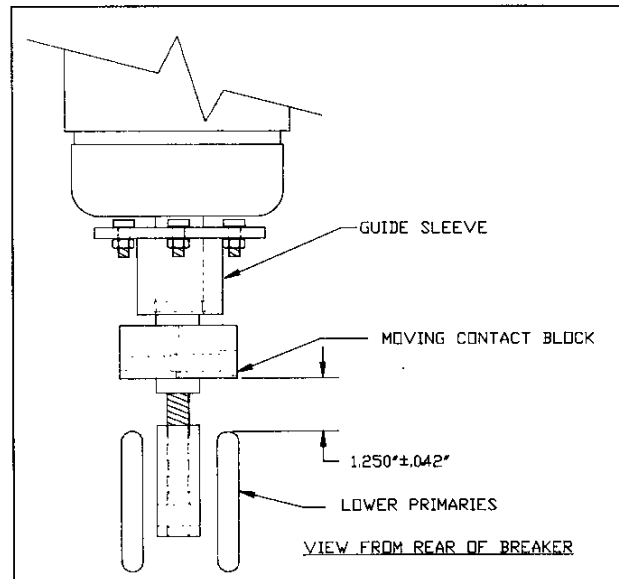

Figure 1. Moving Contact Block Measurements
At each inspection, the vacuum interrupters should be checked for contact erosion. The breaker must be closed for this check. Each new vacuum interrupter is set with a gap of about 0.500 inch between the contact loading spring yoke and the nut on the pushrod. Because the factory setting of the overtravel gap varies slightly for each interrupter, a label is provided on the lower part of each interrupter. The original factory setting of the overtravel gap and the end-of-life measurement of this gap are recorded on the label. When the overtravel gap measurement reaches the end-of-life value given on this label the interrupter should be replaced. See Figure 1.
- With closed contacts on a new vacuum interrupter, the bottom of the moving contact block should be 1.250" plus or minus 0.042" above the top of the lower main primary disconnect bars. See Figure 1.
- r. Set the height of the interrupter in the breaker by rotating the interrupter. Be careful to turn the interrupter by its ceramic body. Do not attempt to turn it by the lower contact block or the movable stem, as this might result in damage to the interrupter's bellows and loss of vacuum. Rotate the interrupter until the lower surface of the lower contact block is 1.125" above the upper edge of the lower primaries. See Figure 1. Then rotate the interrupter downward as necessary to position the long edges of the block parallel and in line with the lower primaries. Recheck the dimension between the lower surface of the contact block and the upper surface of the lower primaries. This dimension should be 1.125" plus or minus 0.042".